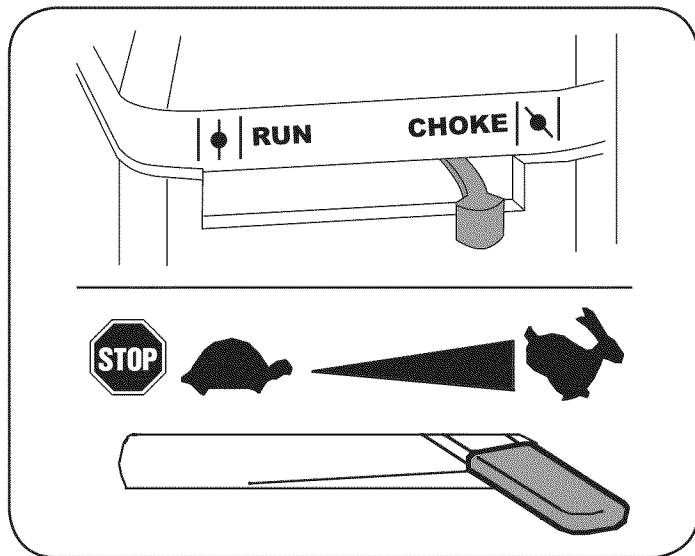

Figure 8
7. Move the choke lever on the engine to CHOKE  position. (A warm engine may not require choking.) See Figure 8.
8. Move throttle control to START/RUN (Rabbit)  position. See Figure 8.